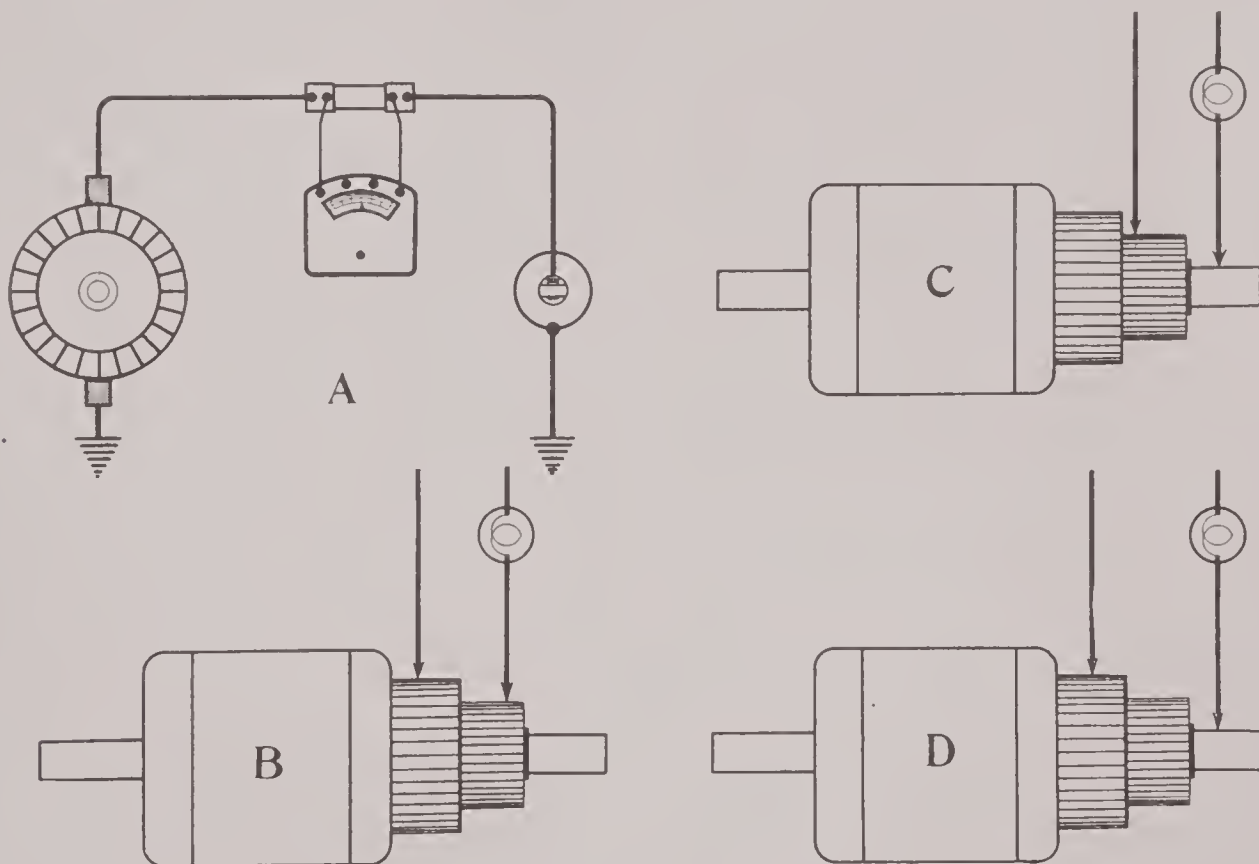

FIG. 319
Fig. 319 illustrates a few common tests made on armatures. Tests (B), (C), and (D) apply particularly to Delco motor-generator armatures which have two sets of armature windings and two commutators, although tests (C) and (D) apply equally well on other armatures. The test shown at (A) is to determine in a rough way whether an armature is shorted or open circuited, without removing the dynamo from the car. See that the commutator is